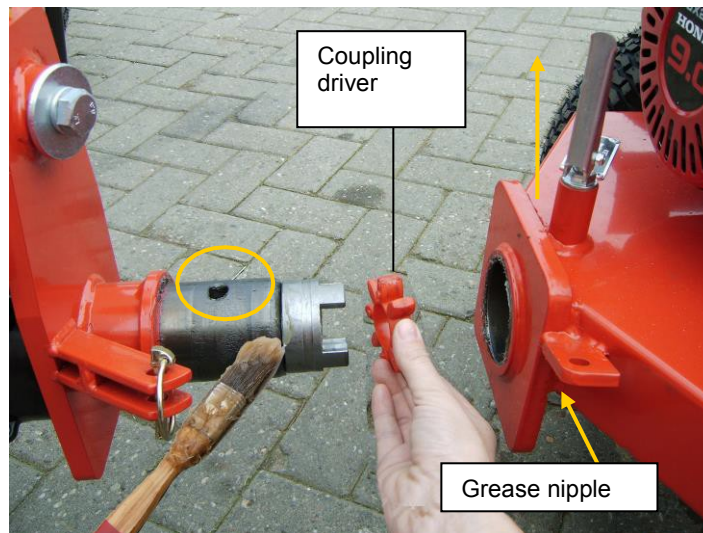

Figure 8.1
- To mount an attachment, the attachment and attachment tube on the drive unit must be clean and well-lubricated (see Figure 8.1).